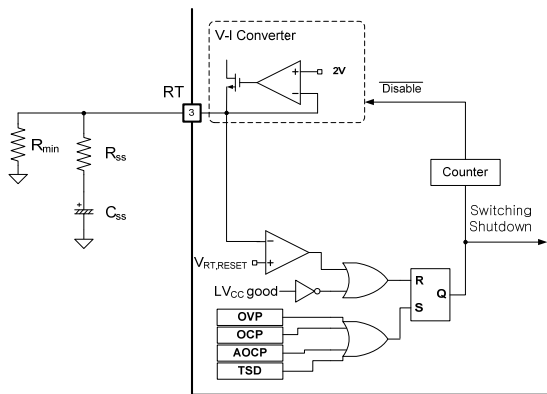
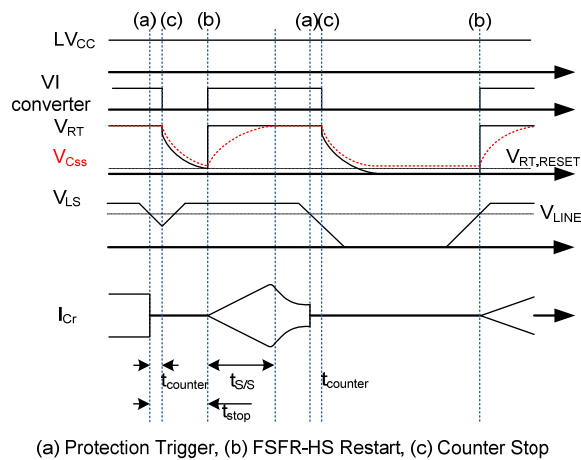

Figure 22. Internal Block for Auto-Restart
Figure 23. Self Auto-Restart Operation
4. Self Auto-Restart: The FSFR-HS series can restart automatically even though any built-in protections are triggered in case external supply voltage is applied. As shown in Figure 22 and Figure 23; once a protection is triggered, the power MOSFET immediately stops. The counter starts to operate and 1008-clocks are counted, then the V-I converter is disabled. C_{SS} starts to be naturally discharged with the series impedance of R_{SS} and R_{min} until V_{RT} drops to $V_{RT,RESET}$, typically 0.1 V. Then, all protections are reset and the V-I converter resumes. The FSFR-HS starts switching again with soft-start.